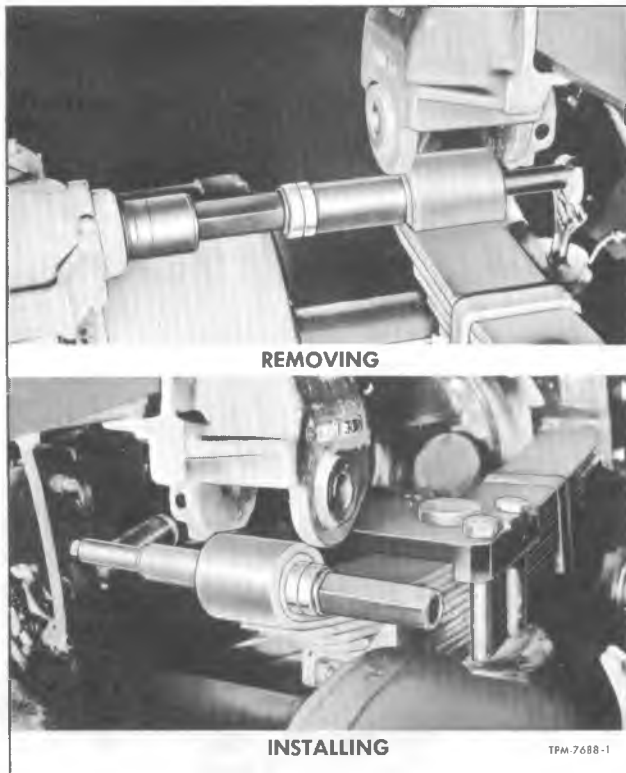

Figure 7—Tool Application for Replacing Spring Eye Bushing
2. Insert pins into plain bushings in spring eyes and bracket and check for looseness. If excessive looseness is evident, pins and bushings must be replaced. Refer to "Replacing Radius Leaf Eye Bushing" earlier in this section for bushing replacement procedure. Figure 7 shows arrangement of tools for removing and installing spring eye bushing on tandem suspension.